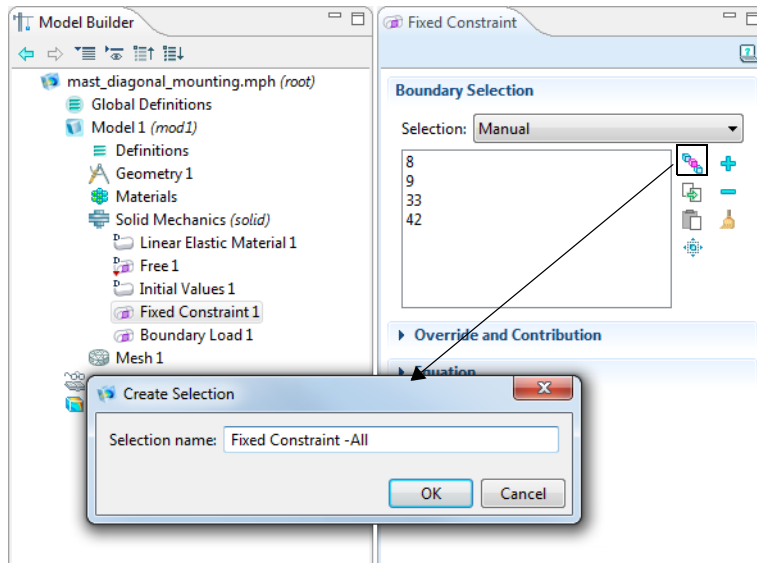

Figure 4-8: Creating a selection from the settings window for a Fixed Constraint feature.
- 3 Click the **Create Selection** button (  ) and enter a **Selection name** in the window that opens. See Figure 4-8.
You can also use the **Paste Selection** button () if you have a list of geometric entities that you want to paste into a selection list. The button is available in the same places as the **Create Selection** button (see Figure 4-6, Figure 4-7, and Figure 4-8) You can type selection data directly into the **Paste Selection** window that opens when the button is clicked.